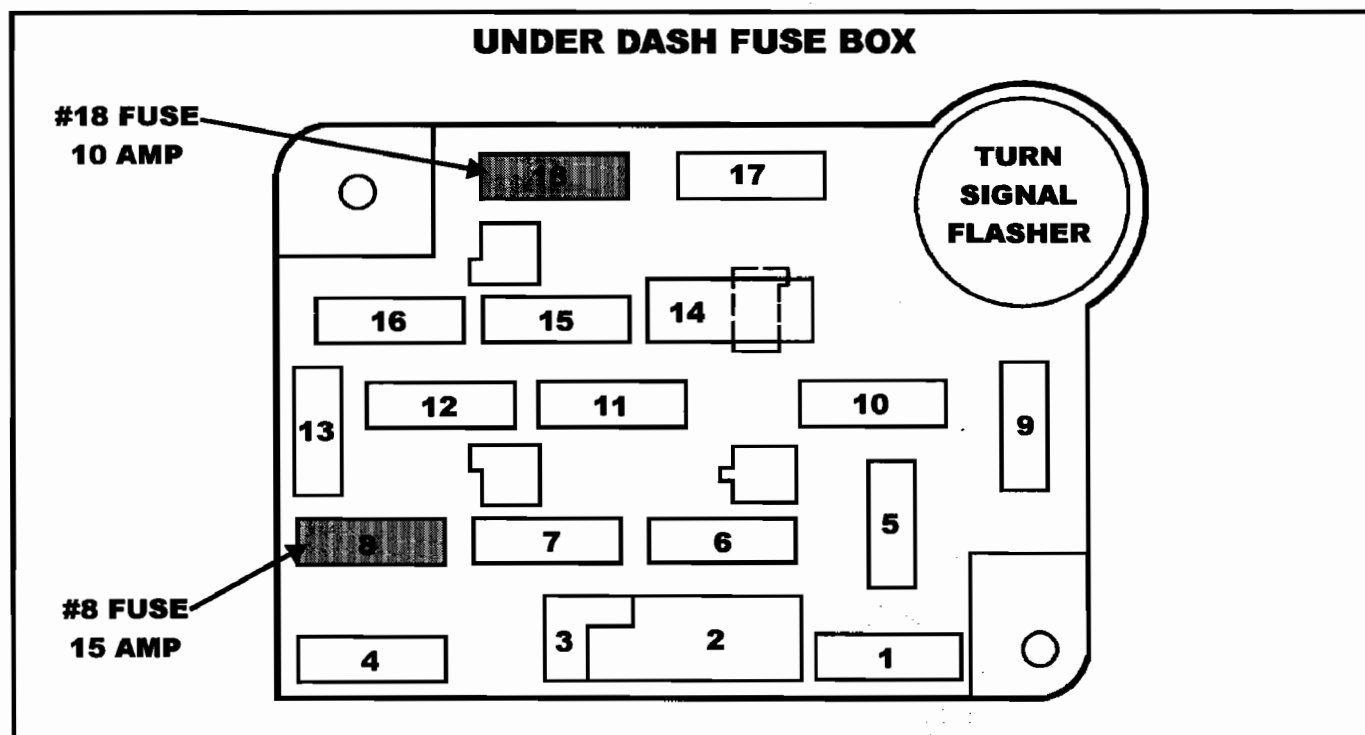

Figure 7
5. Begin with the **LIGHT GREEN/YELLOW (CIRCUIT 54)** wire at PSOM connector pin 1 which is keep alive power at all times, this must have battery voltage even with the ignition off. If it does not the #8 15 amp fuse in the under dash fuse box should be checked (Refer to Figure 7) or the LG/Y wire is faulty.
This must have system voltage when the ignition is on. If it does not have power, the #18 fuse in the under dash fuse box should be checked, (Refer to Figure 7), or there is a problem with the W/P wire.